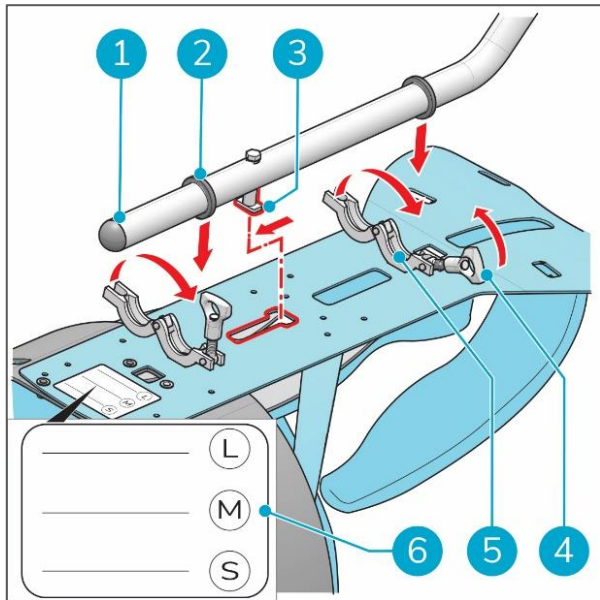
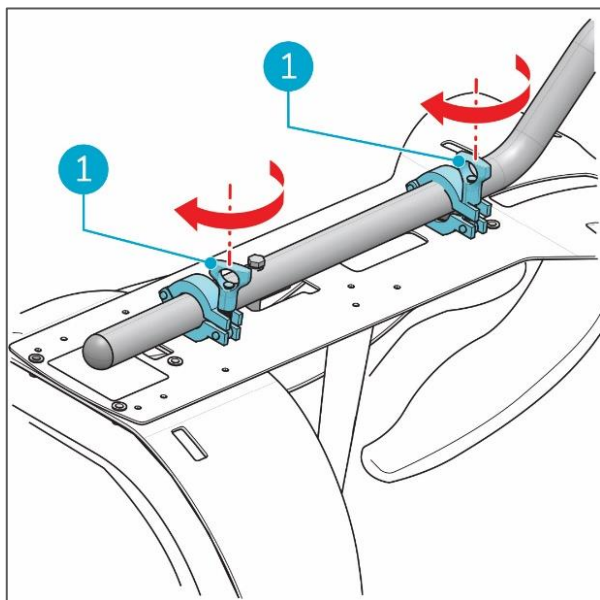

Figure 4
Figure 5
2. Place the lower part of the support tube (Figure 4, pos. 1) in the opened mounting clamps (Figure 4, pos. 5), with the safety hook (Figure 4, pos. 3) in the opening in the harness.
3. Push the tube to the desired working height: Large, Medium or Small (Figure 4, pos. 6).
4. Make sure to put the rubber rings (Figure 4, pos. 2) into the mounting clamps.
5. Close the mounting clamps (Figure 4, pos. 4) and tighten the fasteners (Figure 5, pos. 1).